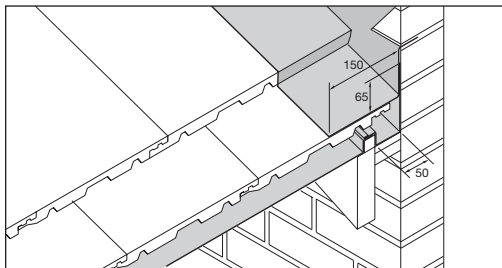

Fig 71 – Reduced width secret gutter with cover flashing
- A lead cover flashing above secret gutter is advisable for interlocking tiles and slates, particularly in areas of high exposure or on roofs under trees, where risk of blockage is high. If this is done, width of secret gutter may be reduced to 50mm (Fig 71).